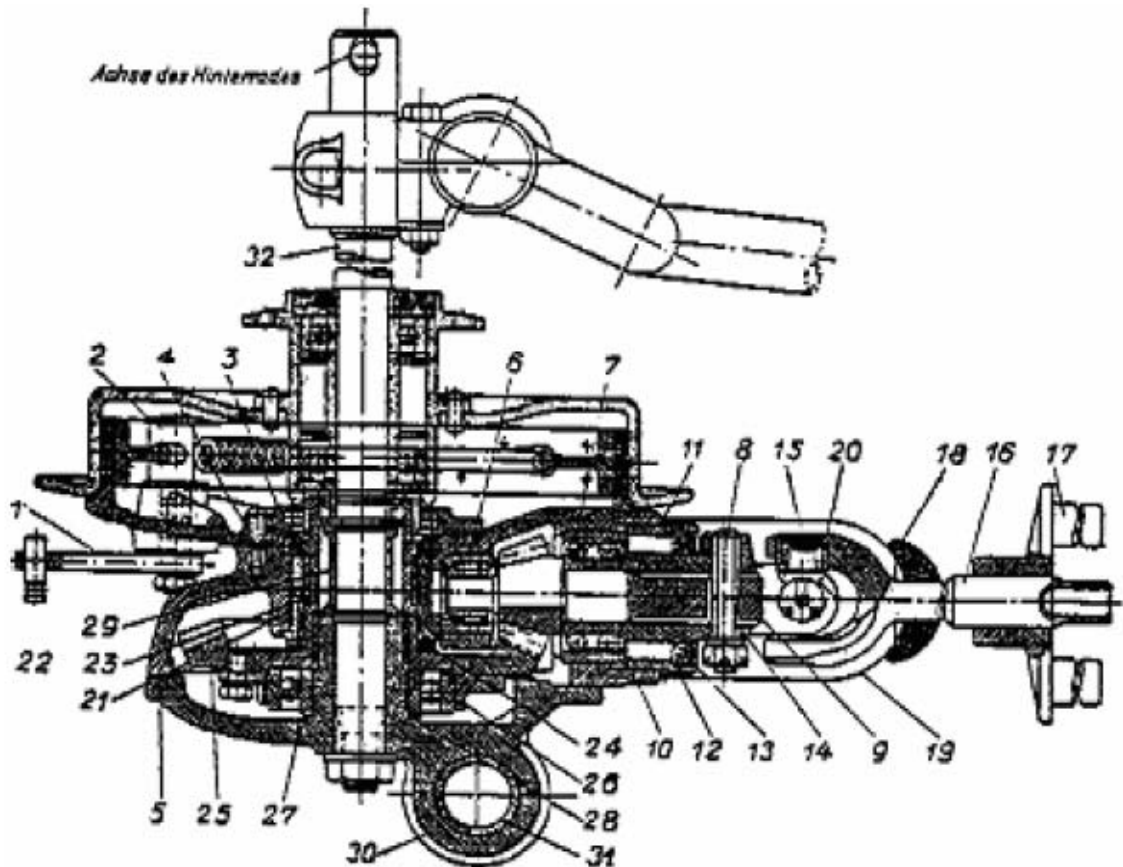
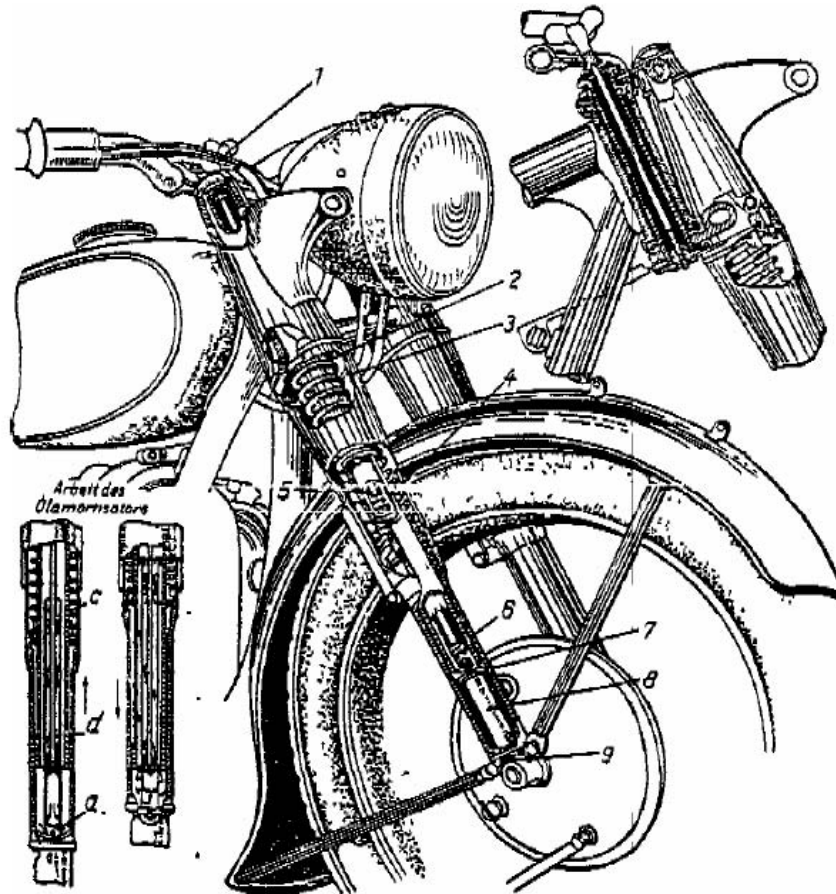
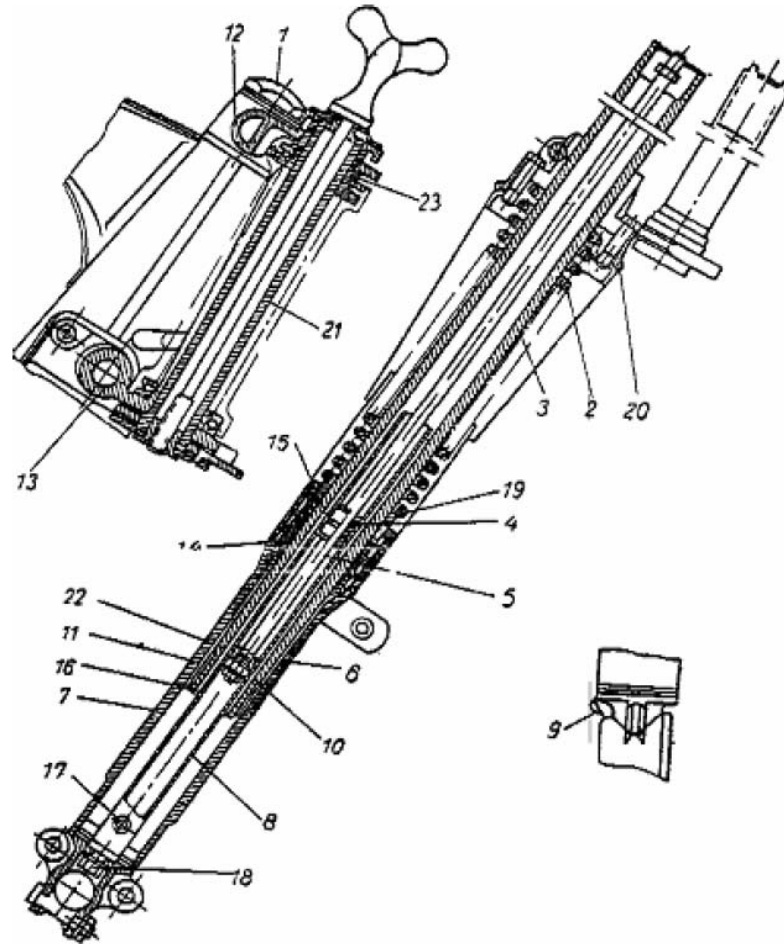

Fig. 14
Fig 15
Fig 16
In no case should one disassemble the power transmission mechanism (fig. 14) unless absolutely necessary. If for any reason dismantling is required, then it is extremely important when rebuilding to use the same adjustment disks which were installed by the factory. These disks control the play between the gear teeth and are to be adjusted after tightening all nuts/bolts in order that the gears operate without seizing. One must be able to feel the gap between the gear teeth when rotating the drive shaft by hand. If during rotation of the shaft the gap in the teeth increases, then one must add an adjustment disk of appropriate dimensions. The periodic lubricating of the power transmission is outlined in the chapter "The Lubricating of the Motorcycle".
There is a stuffing box in the Cardan crosshead (15, fig. 14).
This fork system is characterized by its unique softness. The general overview is shown in fig. 15, and in detailed profile in fig. 16. Two fixed steel tubes (3, fig. 16) are connected to each other in two places: above by the cross beam (12) and lower by a bridge at the steering shaft (13). The bar of the steering shaft (21) is pressed into the bridge which connects the fork with the framework. Inside the upper tubes the ends of the fork springs (7) are secured in the sockets (14) and (11).
In the lower fork tubes there is hydraulic (oil) steering damper which is intended to improve absorption of strong impacts and to dampen vibrations in the fork. The upper ends of the shock absorbers have seals (5, fig.15) secured by the tightening nuts (1, fig.14), while at the lower rod ends slotted guides (10, fig. 15) are mounted. Between the guides and the banking pins steel pistons (6) are inserted. The bars are inserted into tubes, which are fastened to the spring end caps by nuts/bolts (18). At the top of the tubes the sockets (4) are fastened by lock rings, which serve for the adjustment of the bars and for the oil, which goes through the gap between socket and bar. In the lower part of the pipes are also openings for oil flow.